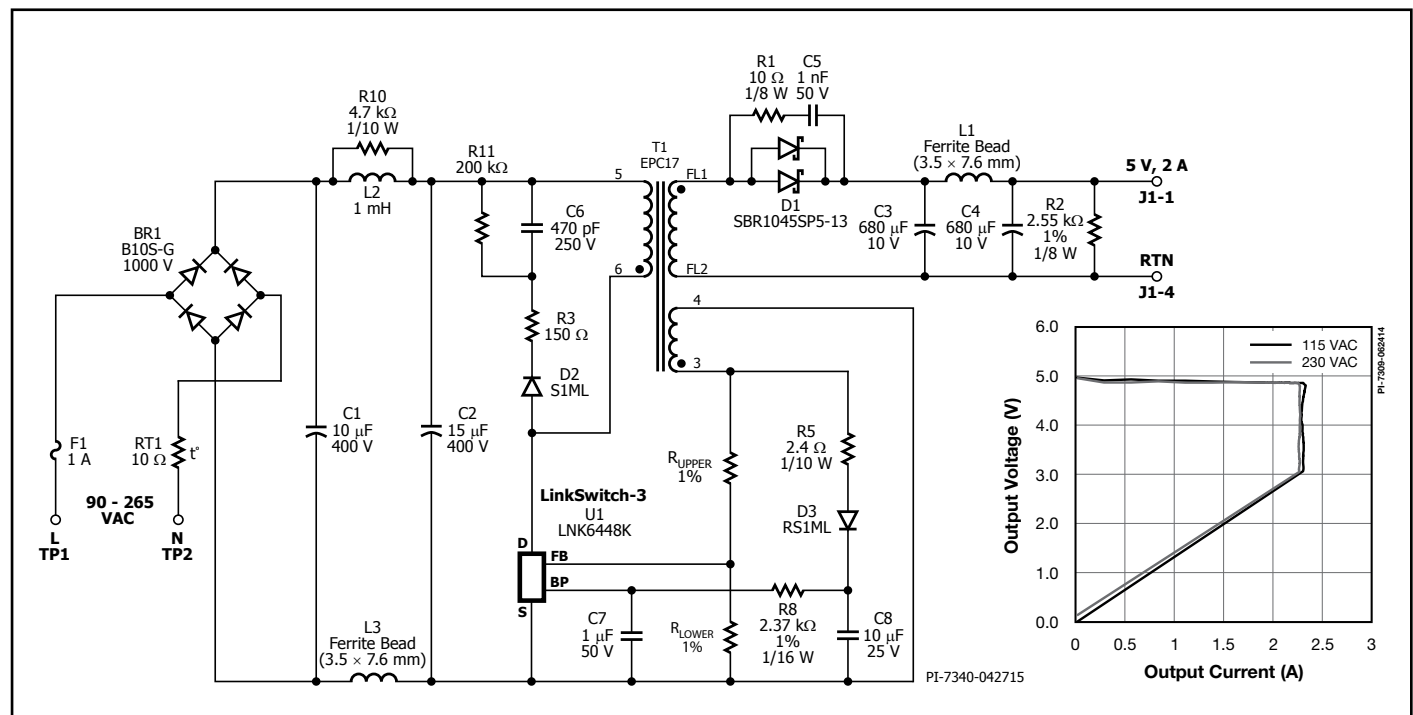

Figure 1. Energy Efficient USB Charger Power Supply (78% Average Efficiency, <30 mW No-load Input Power).
The circuit in Figure 1 shows the basic configuration of a flyback power supply designed using LinkSwitch-3. Because of the high-level integration of LinkSwitch-3, far fewer design issues are left to be addressed externally, resulting in one common circuit configuration for all applications. For example, different output power levels may require different values for some circuit components, but the circuit configuration stays unchanged.
- Use resistor values  $R_{UPPER}$  [D43] and  $R_{LOWER}$  [D44] for feedback resistors (Figure 1).